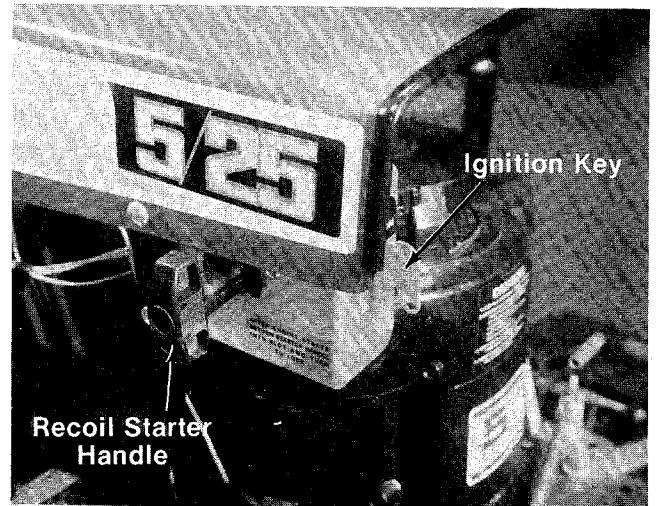

FIGURE 12.
- B. The Recoil Starter Handle is located on the left hand side of the hood. To operate the Recoil Starter Handle, twist it until it is in the horizontal position and pull to start the engine. After the engine starts, return the Recoil Starter Handle to the mounting bracket and turn it to the vertical position as shown in figure 12.
- C. The Ignition Key must be turned to the right to the "ON" position before the Recoil Starter Handle is pulled to start the engine. Turn the Ignition Key to the left to the "OFF" position to stop the engine. See figures 12 and 13.
8. Turn the Ignition Key to "ON" position. See figure 12.
9. Twist the Recoil Starter Handle until it is free and pull it with a quick steady motion. After the engine starts, return the Recoil Starter Handle and twist it until it locks. See figure 12.